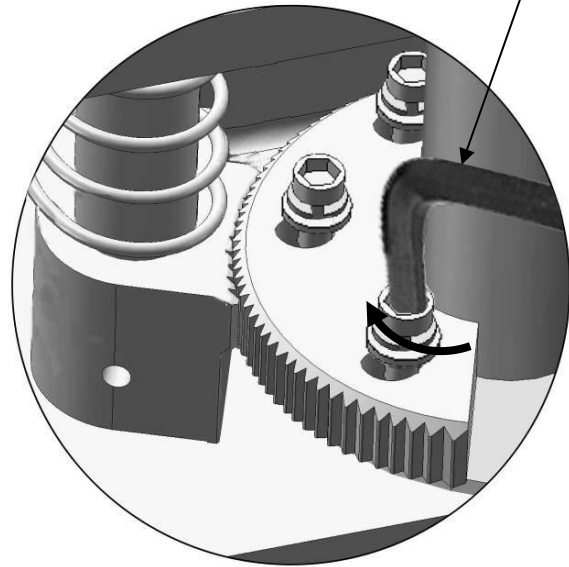

Fig. 26
4. Adjust the moon gear and arm lock to make it to be meshed, then tighten bolts of arm lock (**See Fig. 26**).